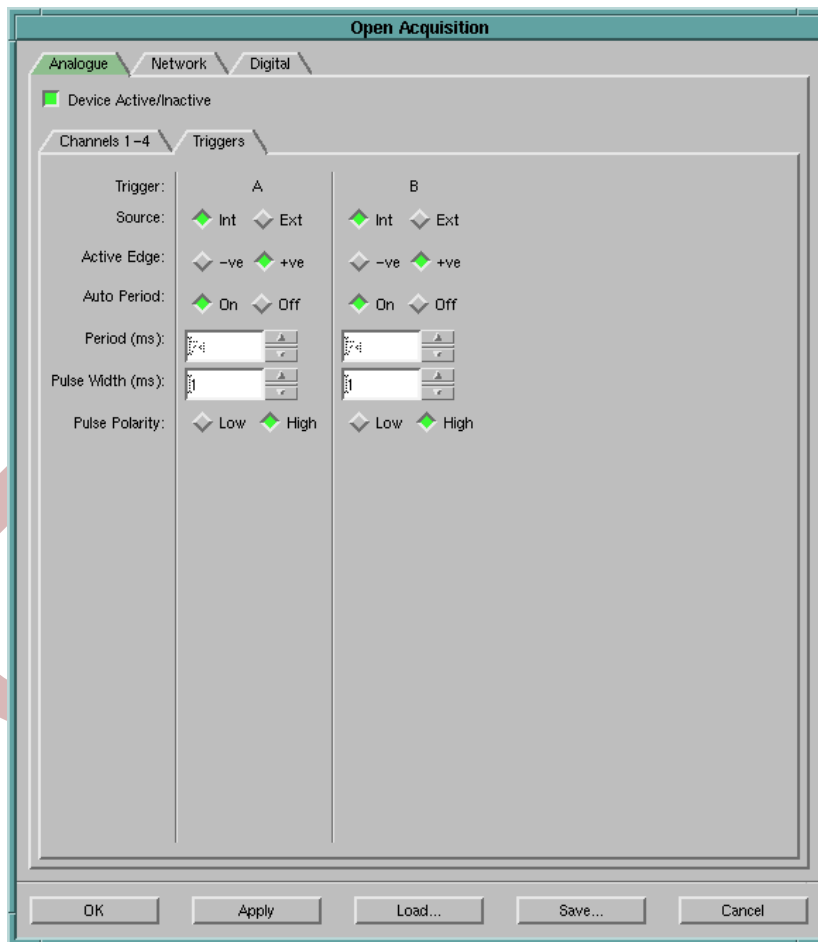

Figure 5-3 The Triggers Tab Form of the Open Acquisition Pop-Up Window
Select **File**→**Open Acquisition** to bring up the **Acquisition Setup** popup, then select the **Analogue** tab and the **Triggers** tab to show the trigger setup window (Figure 5-3, page 48). The DA200 System has two independent triggers, which can be set to either internal or external, while other Coda acquisition systems have a single internal or external trigger. An external trigger is one which is derived from another piece of equipment – a sub-bottom profiler or sidescan sonar, for example. The internal trigger can be used when no external trigger is available, or if the DA System is to be used to generate the master trigger for use by other equipment.
The **Triggers** tab form can be used to specify the details of the triggers (see Figure 5-3, this page). The settings can be changed as follows:
The **File**→**Open Acquisition** pop-up selects *data acquisition mode* and allows the *acquisition parameters* to be set. Select the **Analogue** tab form to set up analogue acquisition (Figure 5-3, page 48). This is the only menu that has a direct effect on the quality of digitised data; therefore, it is important to make sure that the correct options and values are selected.
- **Trigger** shows the triggers to be used with specific channels. The triggers available are shown in the **Triggers** tab form (see Figure 5-3, page 48).
The File **Open Acquisition** pop-up selects *data acquisition mode* and allows the *acquisition parameters* to be set. Select the Analogue tab form to set up analogue acquisition (Figure 5-3, page 48). This is the only menu that has a direct effect on the quality of digitised data; therefore, it is important to make sure that the correct options and values are selected.